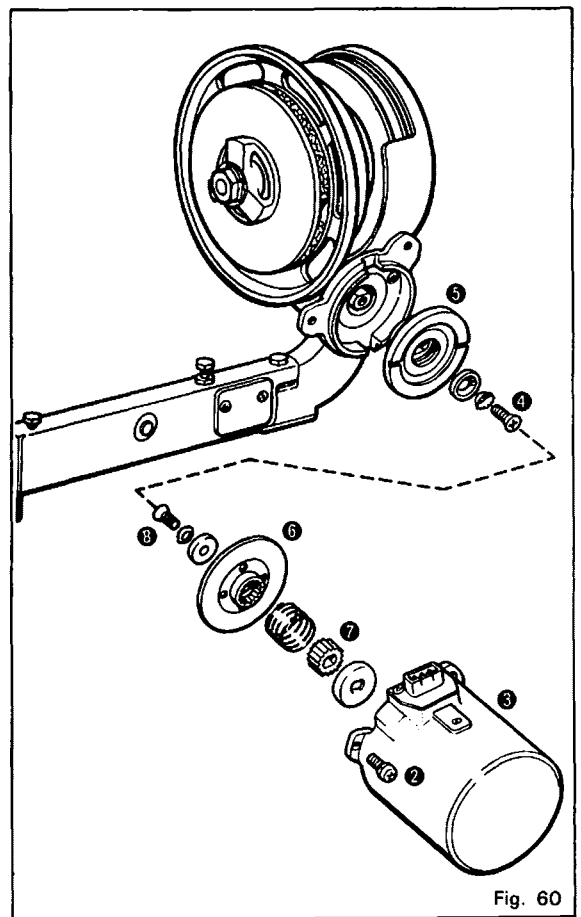

Fig. 60
- b. Loosen screw ❷ and remove slow speed motor ❸.
c. Loosen flat head screw ❹ and replace clutch plate ❺.
d. In this case, replace friction disc ❻ and relation ❼, as well, by loosening screw ❸. (Fig. 60)
h. Insert the spline shaft, and tighten washer ⓑ with screw ❸.
i. Install motor ❸ with screws ❷.
j. Insert auxiliary motor cord plug ❶ into the plug socket. (Fig. 60)